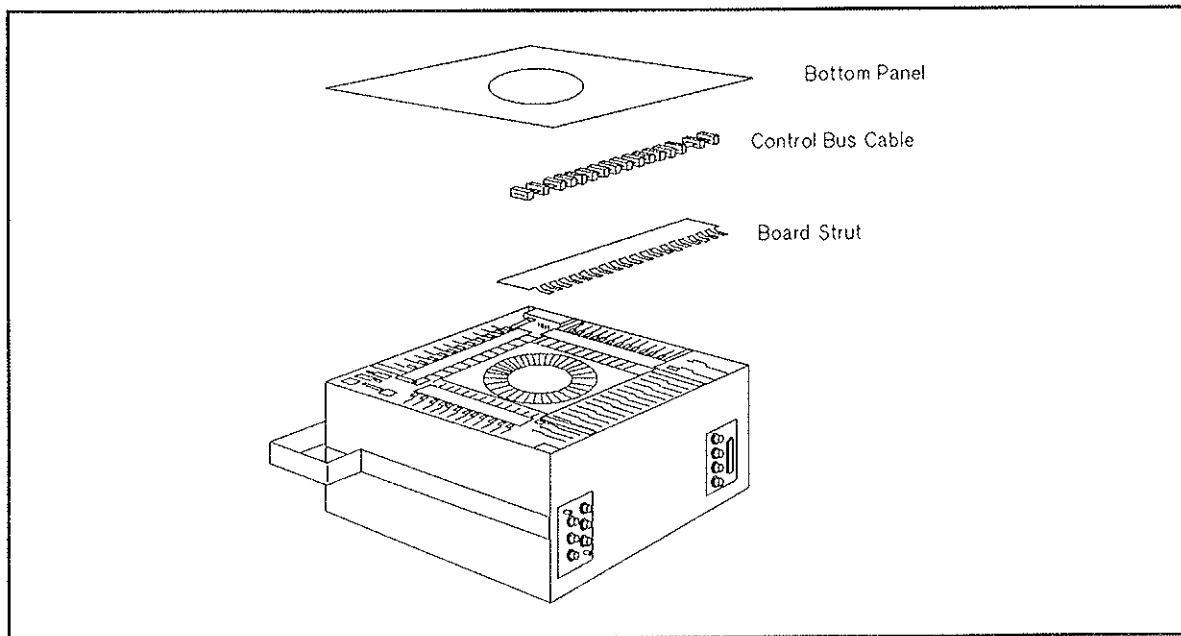

Figure 3-17. Removing the Bottom Panel of the SWM
1. Remove the bottom panel of the SWM (see Figure 3-17).
1. Remove the bottom panel of the 48-pin SWM (see Figure 3-17).
4. Remove the screws ① that secure the connector assembly to the SWM, and remove the connector assembly.